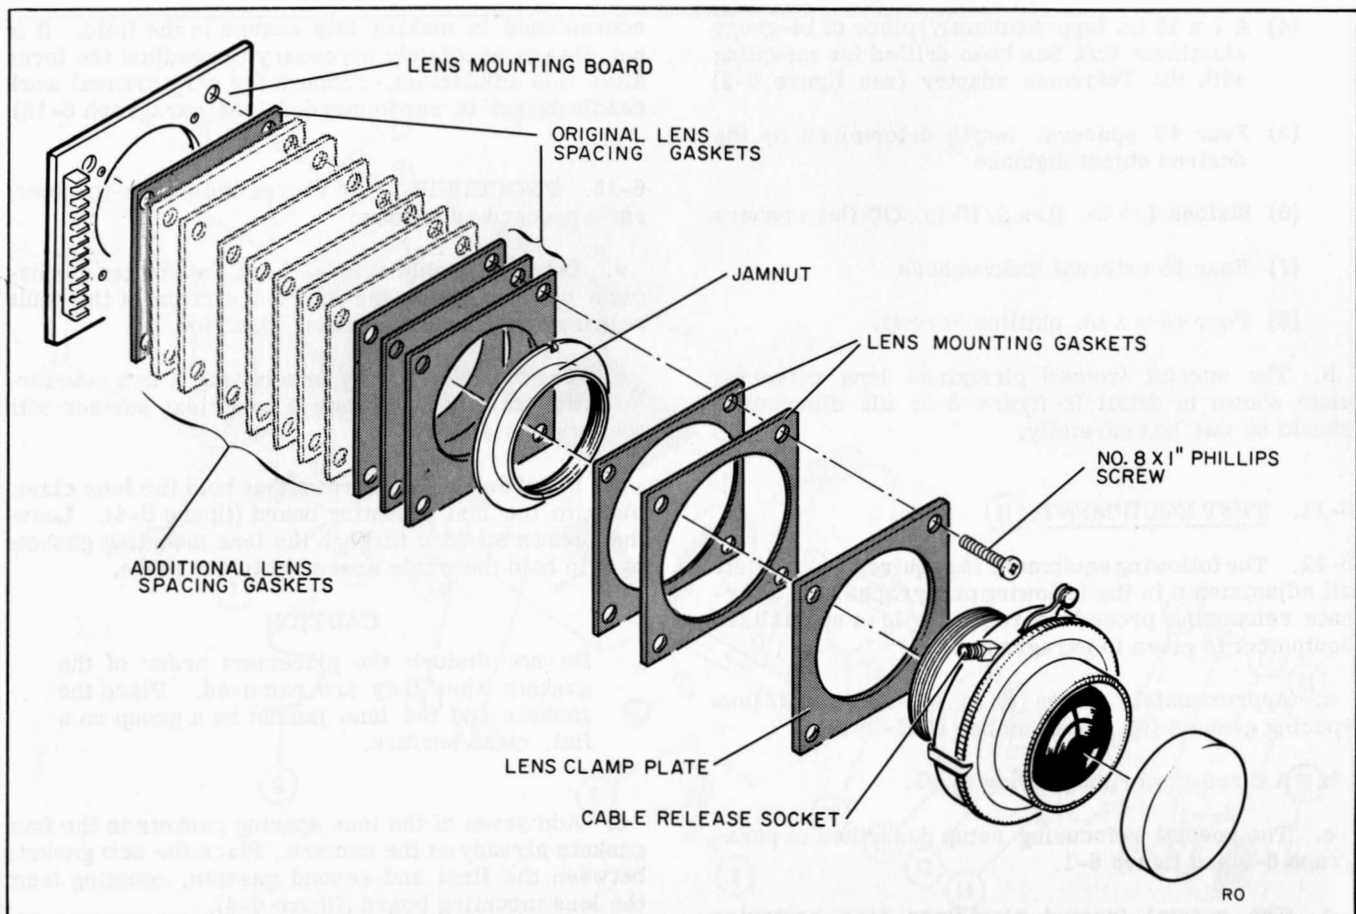

Figure 6-4. Image-to-Object Change Detail
c. Unscrew the four screws that hold the lens clamp plate to the lens mounting board (figure 6-4). Leave the screws sticking through the lens mounting gaskets to help hold the whole assembly in one piece.
d. Add seven of the lens spacing gaskets to the four gaskets already on the camera. Place the new gaskets between the first and second gaskets, counting from the lens mounting board (figure 6-4).